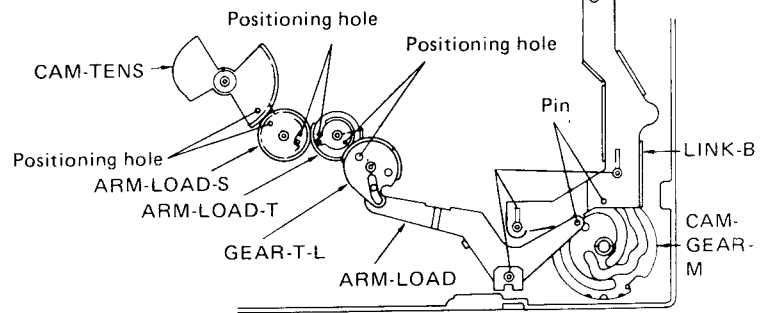

Fig. 4-5
- 2) Set ARM-LOAD pin so it fits in the slot of CAM-GEAR-M as shown in Fig. 4-5.
- 4) Install ARM-LOAD-T, refer to Fig. 4-5.
- 8) Install LINK-B so the pin fits inside the slot of CAM-GEAR-M as shown in Fig. 4-5.